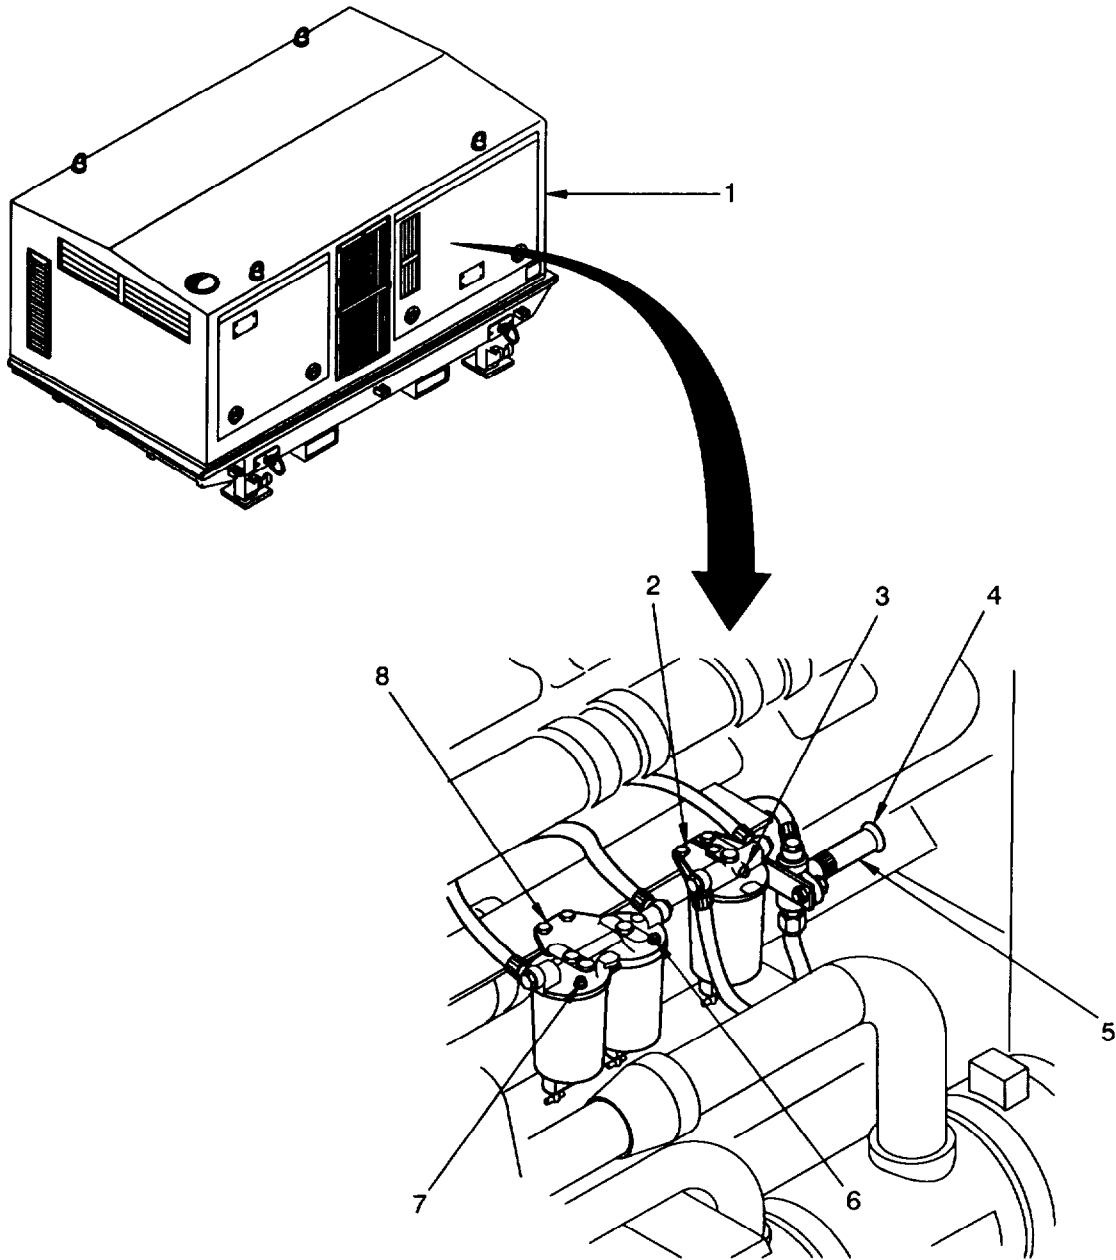

Figure 4-41 Diesel Engine Fuel Pipes and Fuel Filter Assembly Maintenance.
1. Open flap (1, figure 4-41).
1. Open flap (1, figure 4-41)